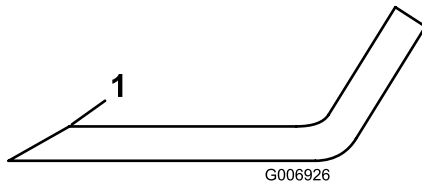

Figure 70
3. Inspect the cutting edges of all blades. Sharpen the cutting edges if they are dull or nicked. Sharpen only the top of the cutting edge and maintain the original cutting angle to make sure of sharpness (Figure 70). The blade will remain balanced if the same amount of metal is removed from both cutting edges.